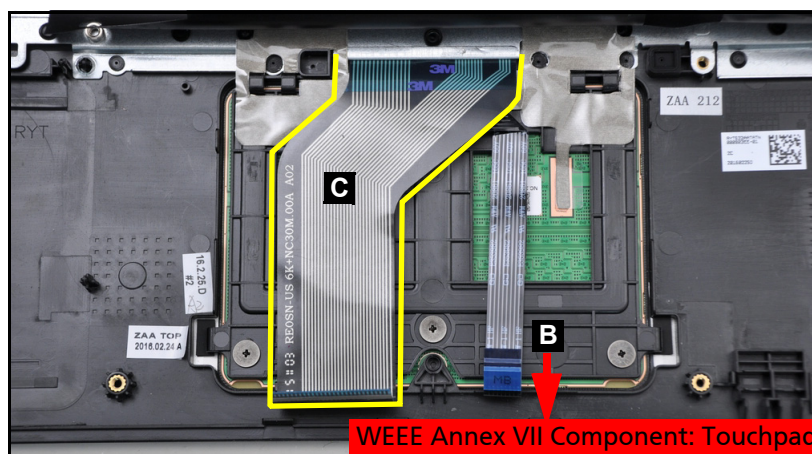

Figure 3-43. Touchpad Module Removal
1. Peel back the keyboard mylar (A) to expose the touchpad module (Figure 3-43).
2. Flip the keyboard FPC (C) away from the touchpad module (B) (Figure 3-43).